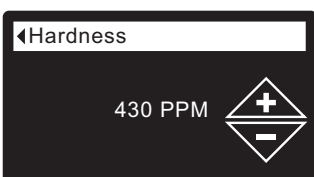

FIG. 56
5. Press the SELECT (O) button to display the Hardness screen (See Figure 56).